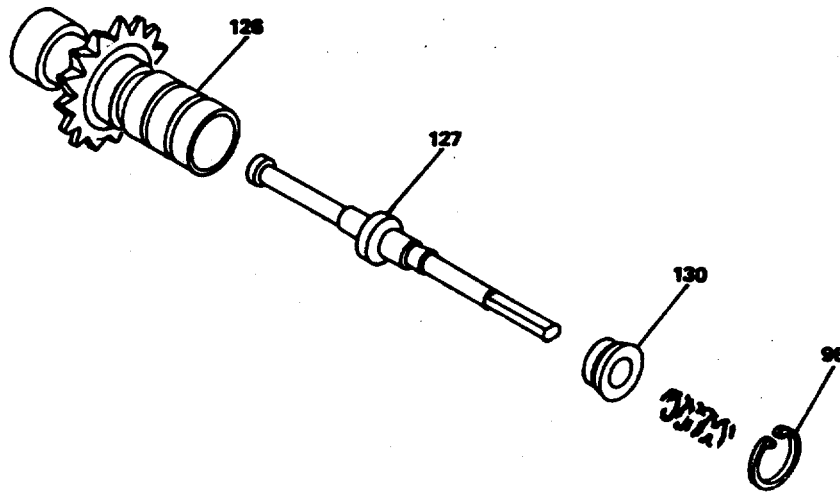

Figure 12-10. Actuator Pilot Valve Assembly
- (5) Assemble actuator pilot valve bushing (126, figure 12-10), pilot valve plunger (127), compensating bushing (130), magnet adjusting spring (129) and retaining ring (128).